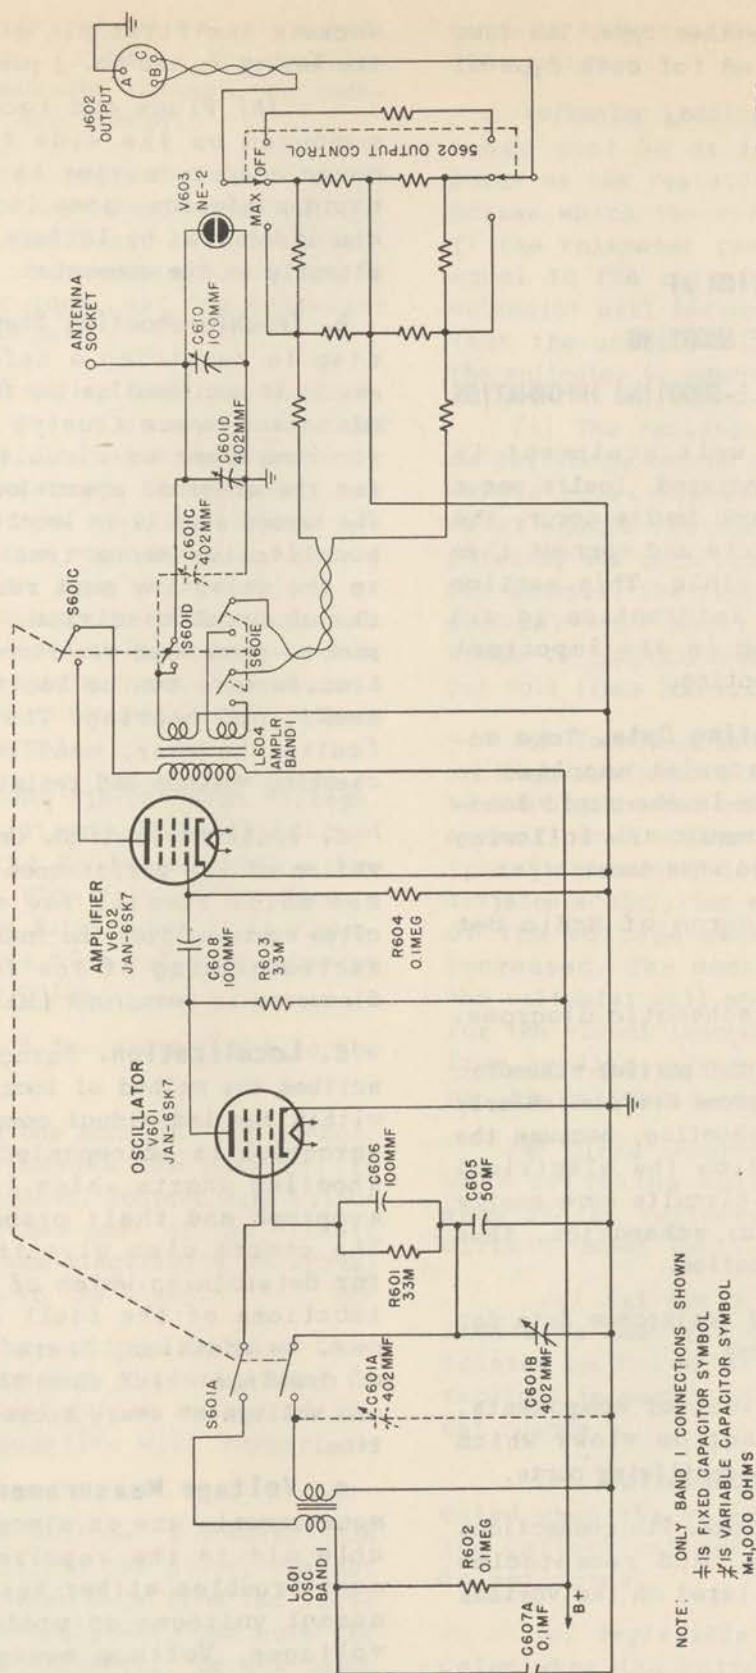

Figure 90. Functional diagram of oscillator-amplifier in OAN test oscillator.
b. *CFT-60054-A Test Oscillator.* This test oscillator (fig. 62) is of the master-oscillator, tuned-amplifier type with a fixed antenna output, and a variable 150-ohm balanced output, incorporating a constant impedance attenuator. A functional circuit of the oscillator is shown in figure 90. This output can be varied from maximum, in steps of 0.04, 0.02, 0.01, and 0.005 of maximum to zero. Zero output corresponds to the off position of the output control in which the attenuator is disconnected from the amplifier circuit. The a-c power supply and internal battery pack have separate on-off controls. The a-c control operates in the power input circuit and the battery control performs the double function of switching the oscillator amplifier circuits from the a-c power-supply outputs to the batteries and vice versa. When the battery power is on, the output of the a-c supply is disconnected and cannot deliver power whether energized or not. the BATT. switch *must* be OFF when a-c operation is desired. Turn ON only the control which corresponds to the type of operation required: a-c or battery. Tubes JAN-6SK7 are normally supplied for the oscillator amplifier circuits. For increased battery life Tubes JAN-6SS7 are recommended, since the total heater current required by them is 0.3 amperes, where Tubes JAN-6SK7 require 0.6 amperes. The unit operates